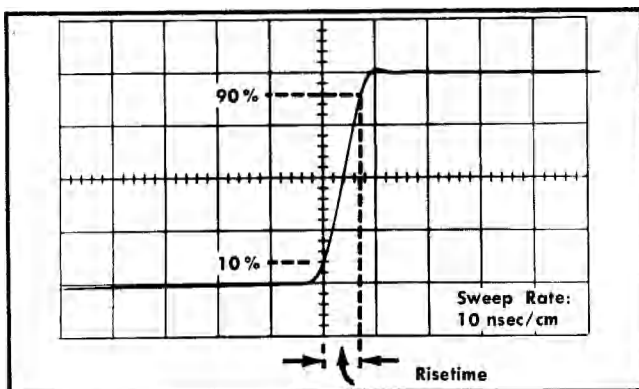

Fig. 6-2. Typical display showing correct gain adjustment.
- CHECK—CRT display for exactly 4 cm of vertical deflection (see Fig. 6-2).